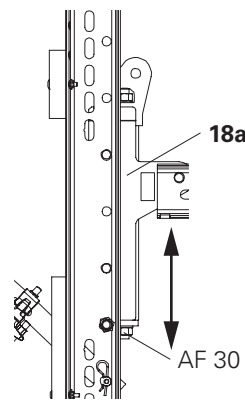

Fig. C1.01a
1. Carry out vertical fine adjustment with the Adjusting Unit VARIOKIT (18a) and Heavy-Duty Spindle SLS (2b) or (2c). (Fig. C1.01a + C1.01b)
2. Slightly loosen the Swivel Coupling AF 48/48 (36) on the diagonal steel scaffolding tube (34b).
3. Height adjustment is carried out by turning the Adjusting Unit VARIOKIT (18a) using a ratchet wrench and socket AF 30. (Fig. C1.01a)
5. Tighten the Swivel Coupling AF 48/48 (36) on the diagonal steel scaffolding tube (34b).